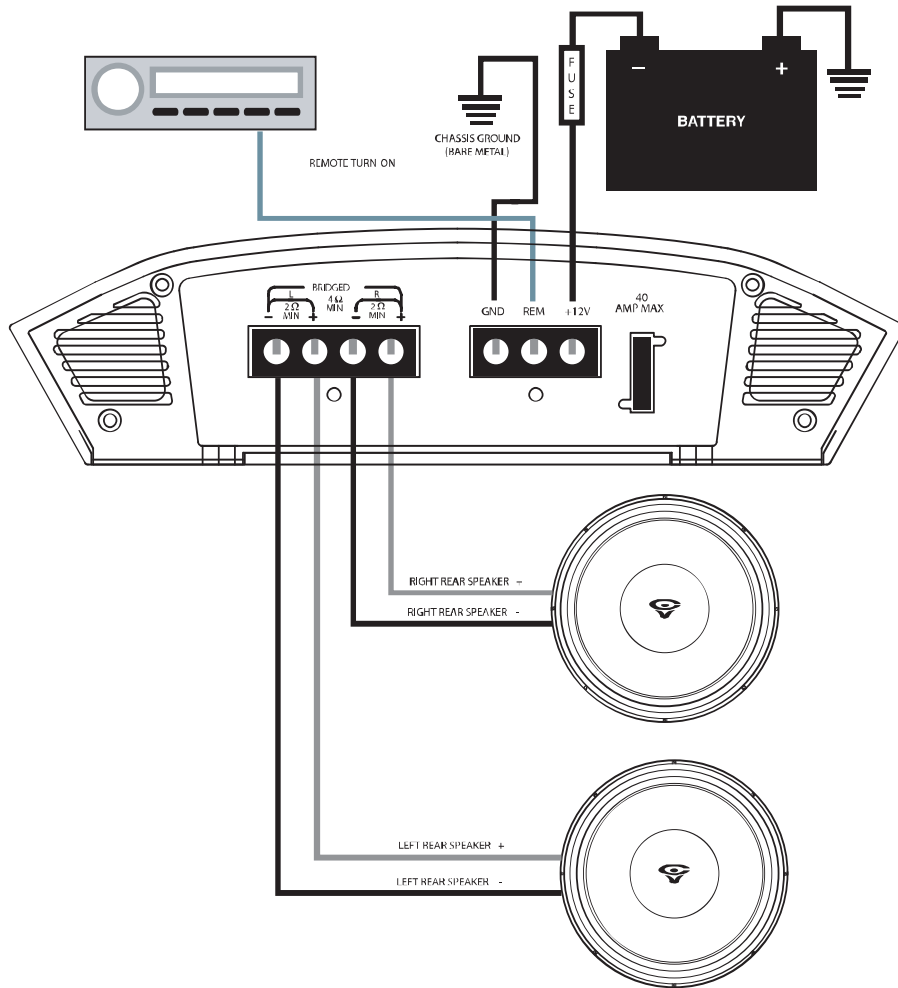

Figure 6 - Electrical connections for the EXL 200.2 and EXL 350.2
6. Refer to Figure 6 when making electrical connections. Connect the amplifier's positive (+) lead via a fuse directly to the positive (+) terminal on the battery. Do not connect this wire to the vehicle's fuse panel. Use red-insulated 10-gauge (or larger) wire for the amplifier's positive (+) power lead and the same-gauge black-insulated wire for the ground.